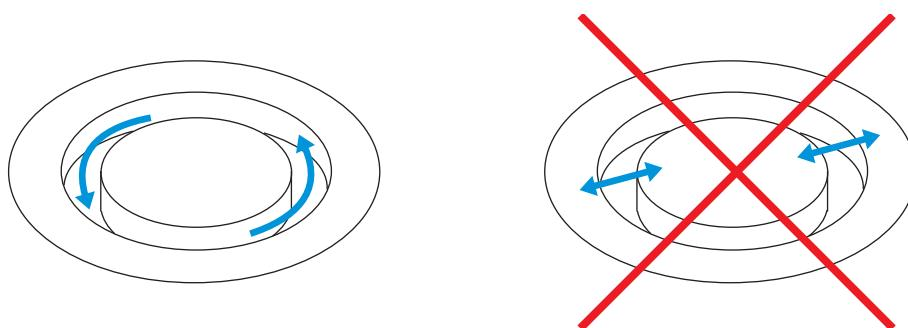

Fig. 7-26
- 7 Before the clean O-ring is installed, the groove is cleaned in the direction of rotation with a cloth soaked in ISO. You must wipe it in the same direction, not back and forth, see Fig. 7-26, Fig. 234.